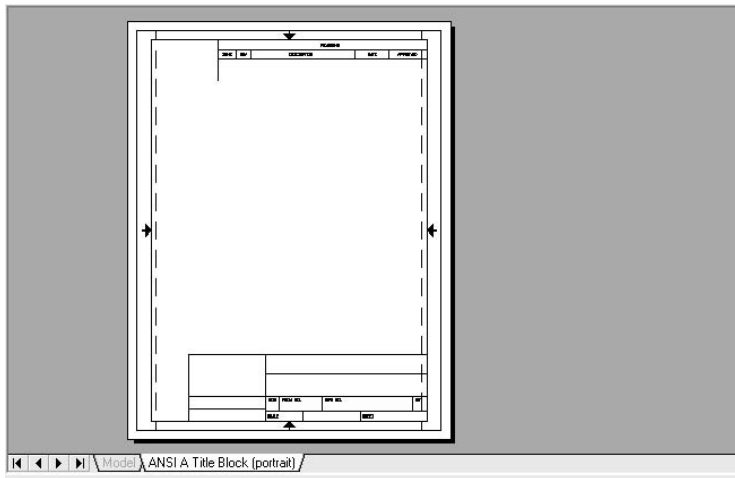

FIGURE 10.32: A new drawing made from the ANSI A (portrait) template
2. Double-click ANSI A (portrait) - Color Dependent Plot Styles. The new drawing appears with a title block and border (see Figure 10.32). In addition, this sheet has extra lines, arrows, and a section near the upper edge for listing revisions to the drawing.